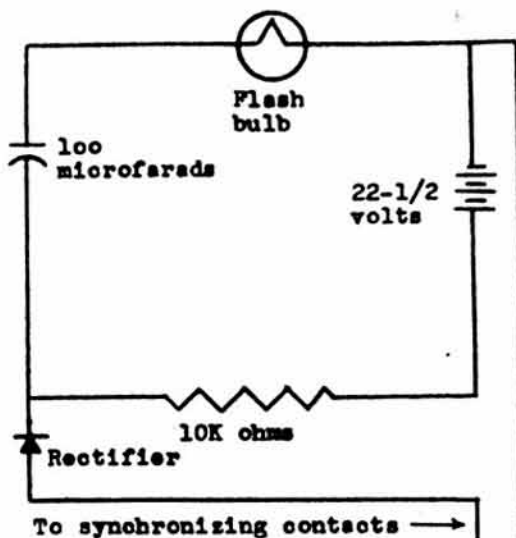

Figure 1-17. Flash Unit Circuit, Schematic.
(Fig. 1-17).
- (2) *Circuit* (fig. 1-17). The capacitor charging circuit is closed by inserting a bulb in the flash unit socket. Current flows from the battery through the filament, the capacitor and resistor. The resistor limits the current to a value lower than that necessary to fire the bulb. When the synchronizing contacts of the camera are closed, the capacitor discharges. The flow of current (which bypasses the resistor) is through the filament of the bulb, connecting cord, camera synchronizing contacts, and the rectifier. Ignition of the lamp destroys its filament and opens the circuit.